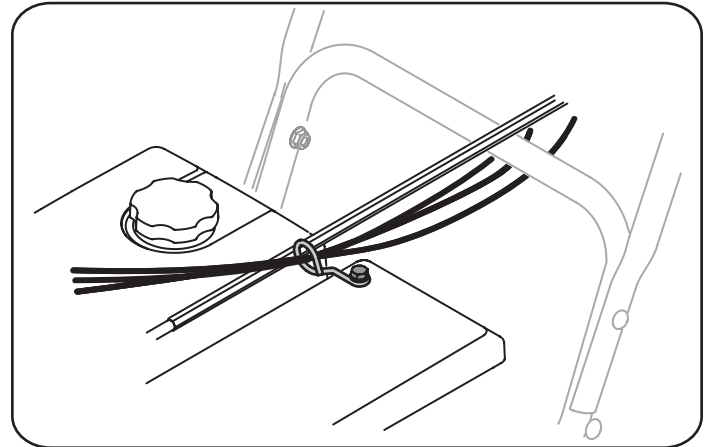

Figura 40
1. Locate cable guide on top of engine and ensure cable(s) are properly routed through the cable guide. Consulte Figura 40.